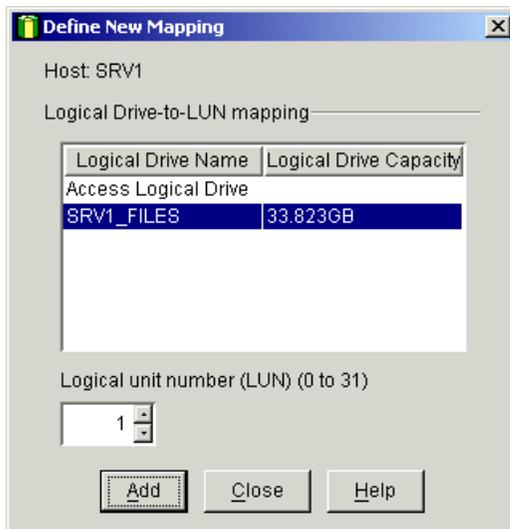

Figure 5-28 Define New Mapping window
11. The Define New Mapping window is displayed, as shown in Figure 5-28: